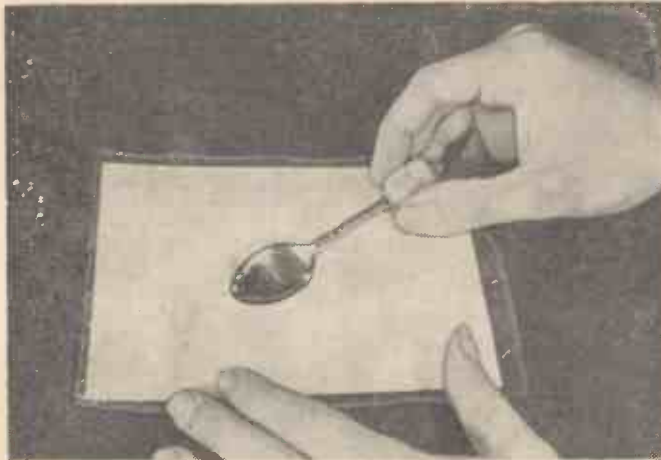

Fig. 1.—Tacking the tissue on to the print.
**T**HE dry mounting of photo prints is clean, simple and efficient. The print is trimmed to size and a sheet of special dry-mounting tissue—a shellac-coated thin paper—is placed over the back so that it slightly overlaps the edges. If a sheet of sufficient size is not available, two or more sheets may be used, placed edge to edge. Now, an old spoon, fitted with an insulating handle, or a clean soldering iron is heated and plunged on to the centre of the tissue to make it adhere to the print (Fig. 1). This should be done in the centre only.